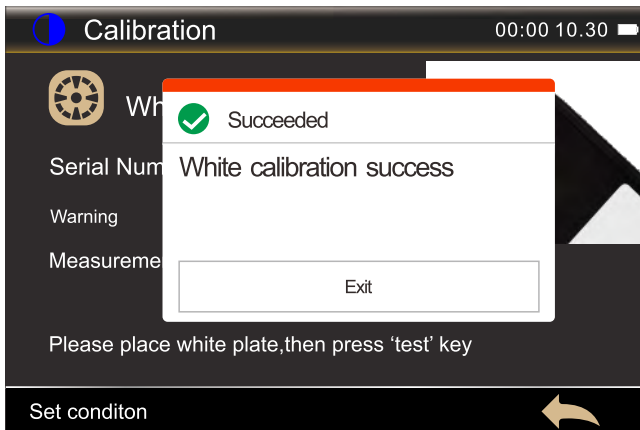

Figure 15 White calibration success
2. After confirming the measurement conditions, place the whiteboard as required and press the "Test" button. During the calibration process, the words "Calibration..." appear in the lower right corner of the screen. After the whiteboard calibration is completed, the "Successful Calibration" reminder box will pop up, as shown in Figure 15 below.